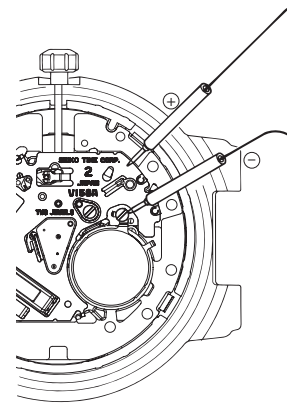

Fig. 8
- * When measuring the voltage of the rechargeable battery, connect the (-) probe to the RECHARGEABLE BATTERY UNIT SCREW and (+) probe to the ②1 CIRCUIT BLOCK COVER as illustrated in Fig. 8.
- 1) Measure the voltage of the rechargeable battery before recharging (please refer to Fig. 8 of page 15 for where to apply the probes of the tester).